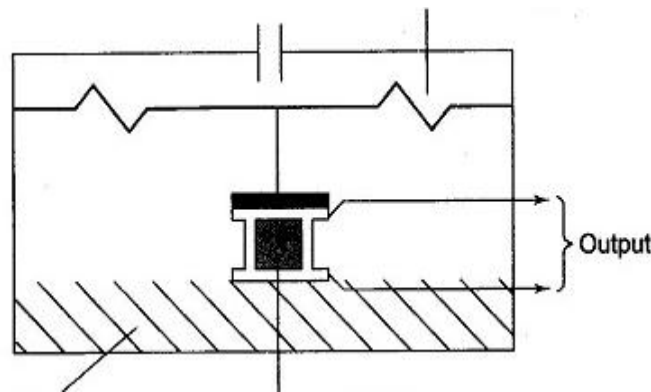

FIGURE 1
- 1.4 A transducer is shown in FIGURE 1.
- 1.4.1 Name the transducer shown in FIGURE 1. (1)
- 1.4.2 Explain the principle of operation of the transducer in FIGURE 1. (4)
- 1.4.3 State THREE disadvantages of the transducer shown in FIGURE 1. (3)